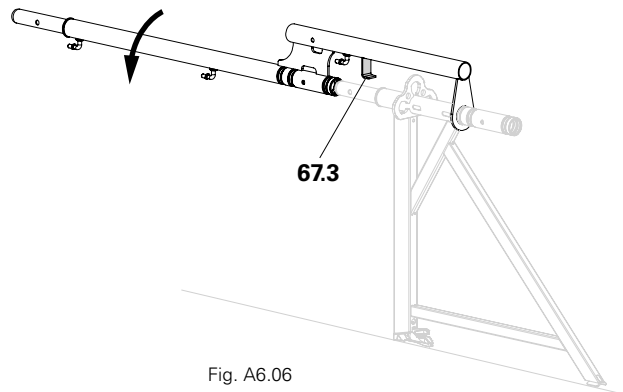

Fig. A6.06
2. Push Protection Panel Post EPS upwards on the Console Bracket ECM, and then attach it to the Console Bracket ECM. (Fig. A6.06 + A6.07)
3. To extend the reach, pin the protection panel post with locking pins $\varnothing 48/57$ (19).